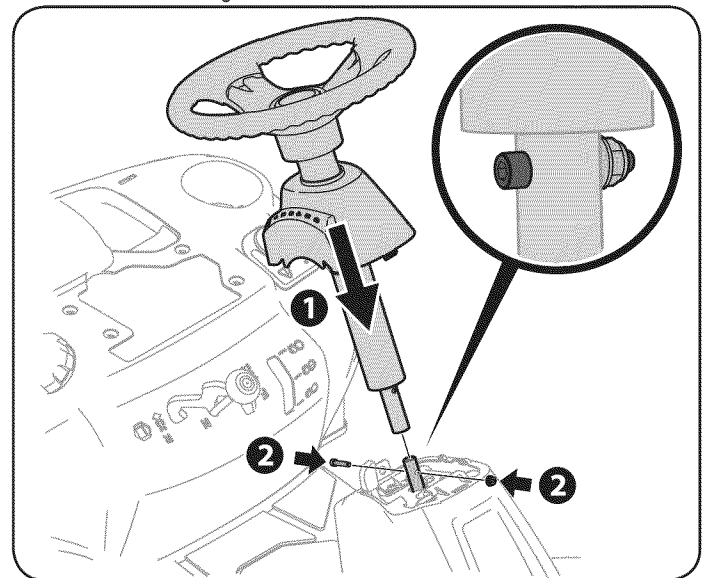

Figure 2
4. Lower the steering wheel assembly onto the lower steering shaft and secure with the socket head screw and lock nut previously removed. See Figure 2.